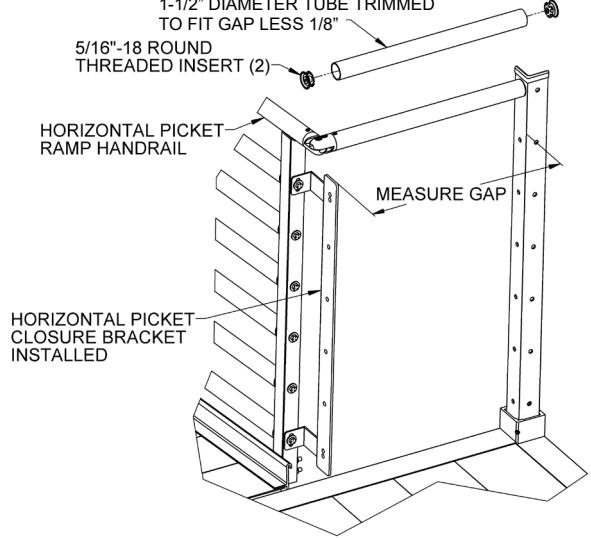

FIG. 5.19
5.7.2. Measure the gap between the horizontal picket closure bracket and the platform post (FIG. 5.19).
5.7.3. Trim a 1-1/2" diameter round tube and the 1-1/2" x 2" curb to the measured gap length, less 1/8" to account for threaded inserts which will be installed after trimming (FIG. 5.19).